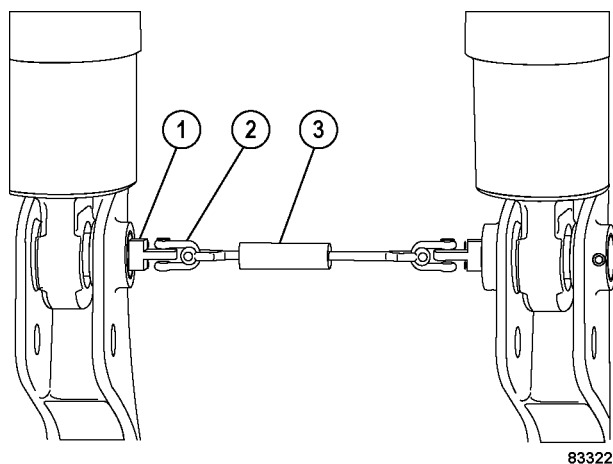

FIGURE 50-18. REAR SUSPENSION PIN REMOVAL TOOL
9. Install pin removal tool (1, Figure 50-18) to each lower pin using the capscrews listed in Table 1. Tighten the capscrews to **240 ± 24 Nm (177 ± 17 ft lb)**.
10. Attach both shackles (2) to cylinder (3).